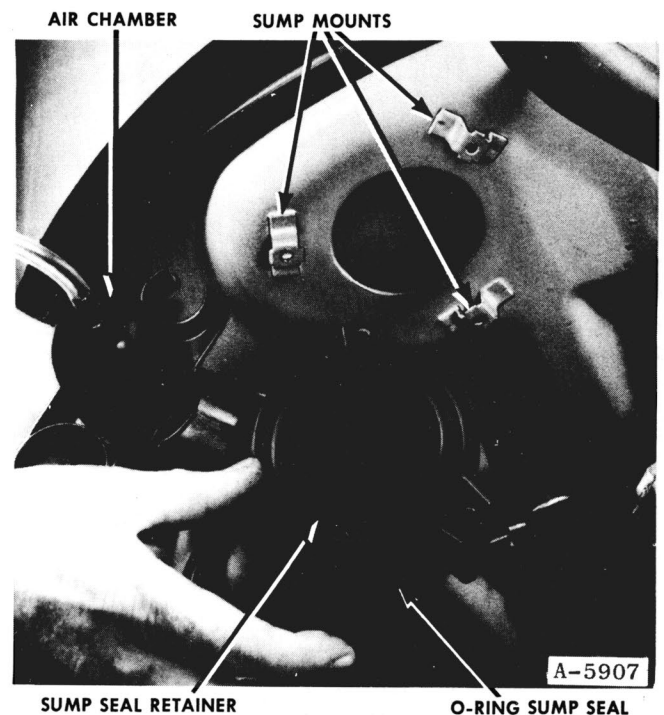

Figure 135A
3. Remove three mounting screws, Fig. 135A.